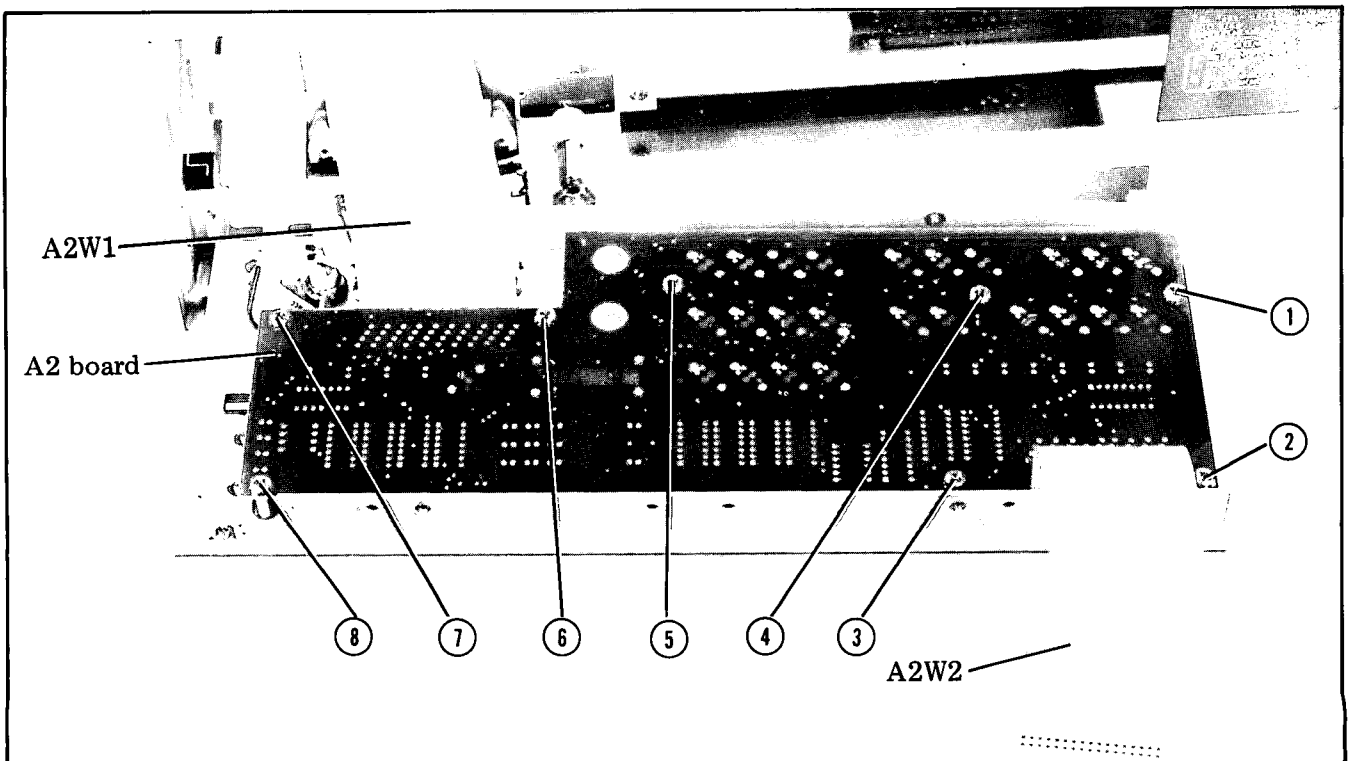

Figure 8-14. A2 Keyboard and Display Board Disassembly.
- f. Disconnect flat cable 40 pin connector A2W2 from the plug mated with A21 board assembly. See Figure 8-14.
- g. Disconnect flat cable 40 pin connector A2W1 from the plug mated with mother board. See Figure 8-14.
- b. Remove the 8 screws (1 through 8) in Figure 8-14) fastening A2 board to front panel.
- b. Remove 8 screws (① through ⑧ in Figure 8-14) fastening A2 board to front panel.